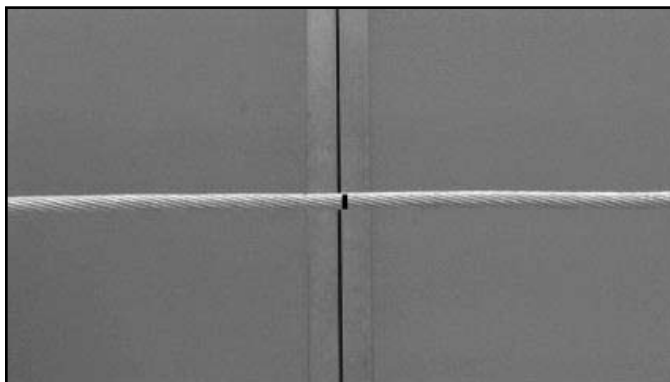

Figure 1
2.01 Mark the cable at the desired installation point (Figure 1). **Diverter**s should be placed at 15' intervals for optimum visibility.